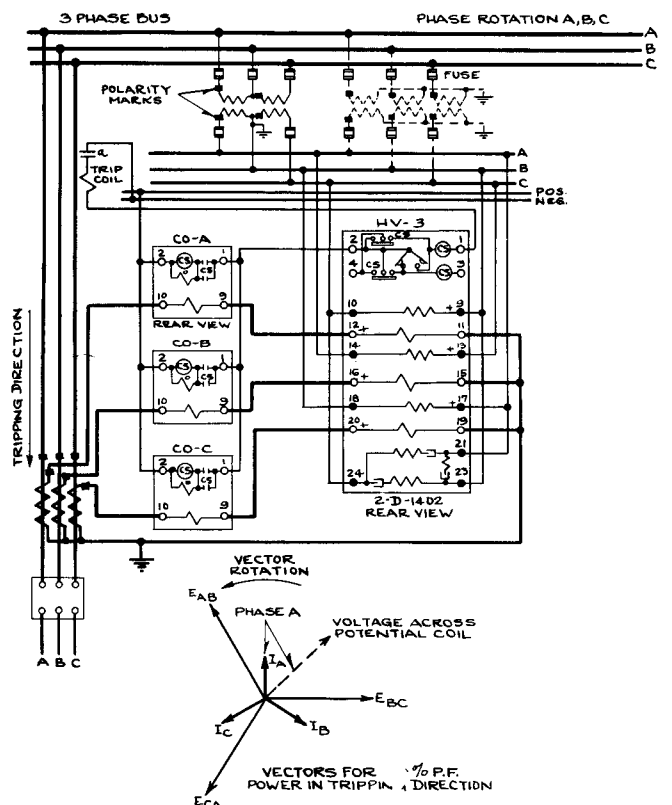

Fig. 13
* Fig. 13—External Connections for Directional Overcurrent Phase Protection of a Three Phase Line Using Three Type CO Torque Controlled Relays Directionally Controlled By One Type H-3 (90° Connection) and One Type MG Relay All in the Standard Cases.